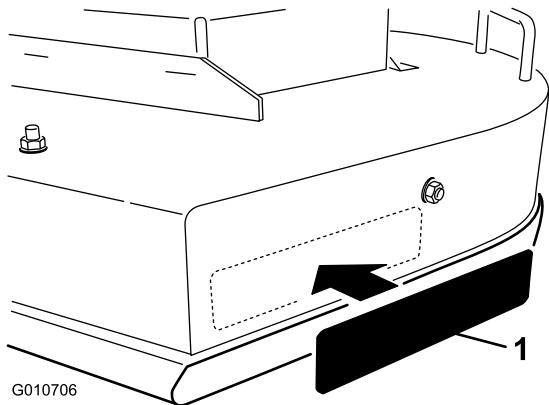

Figure 5
15. Remove the backing paper and apply decal to the discharge side of the mower (Figure 5). Smooth it from the center to the edges to remove any air bubbles.